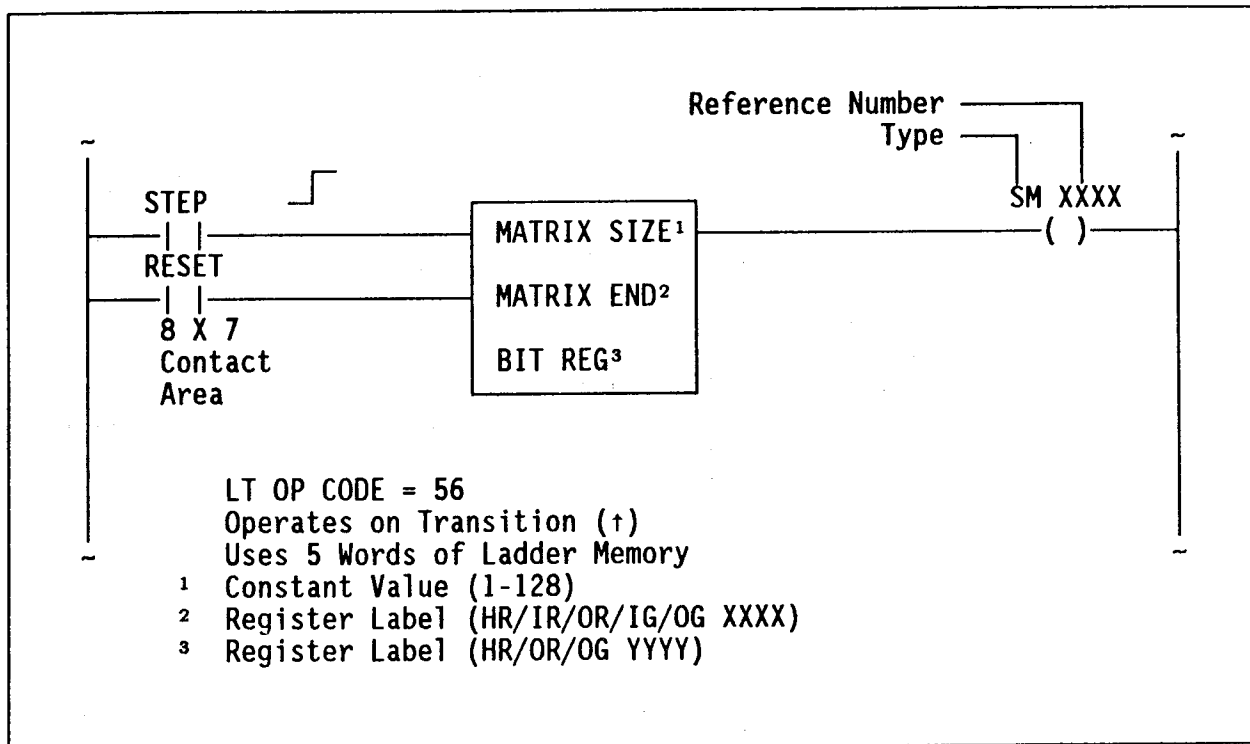

Figure 1. Search Matrix (SM)
The Search Matrix (SM) function is used to search bits that are 1's in a matrix and to report the bit position where the 1 is located. A matrix is defined as a table of registers handled on a bit-by-bit basis. Each time the SM function is operated, a bit register is used to hold the bit number of the bit that is a 1. SM function symbology is shown in Figure 1.